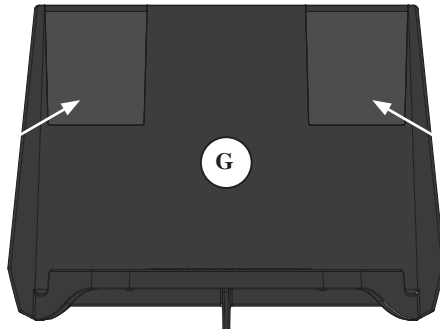

FIG. 3
- 3 Ensure that the surfaces on the Bucket (F) and Caster Mounts (G) are clean and dry. Remove a square from the Double Sided Tape (H) and apply to the Caster Mount in the recessed location at each corner [FIG 3].